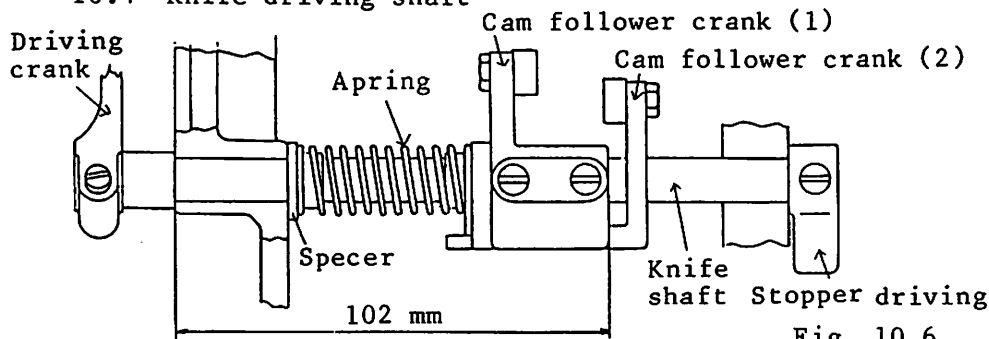
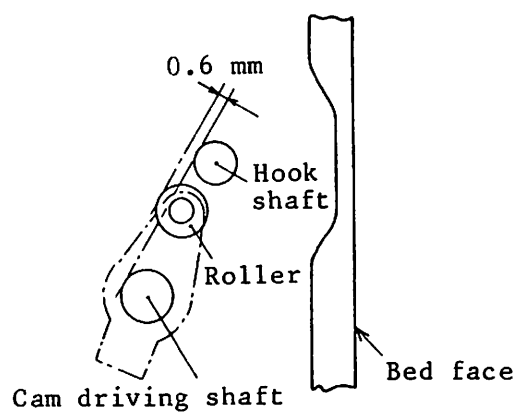

Fig. 10.6
Fig. 10.9
- (1) Fig. 10.6 shows the standard installation of the knife driving shaft.
- (2) To assemble, pass the knife driving shaft through the hole of driving crank first.
- (3) Secure the cam follower crank (1) to flat part of the knife driving shaft.
- (4) Secure the stopper to the flat part of the knife driving shaft so that the knife driving shaft can rotate smoothly.
Note: Fig. 10.9 shows the standard position of the cam follower crank 2. If position of the cam follower crank 2 is changed, adjust the adjusting bolt (Fig. 10.6) and then perform steps (1) - (3) above.